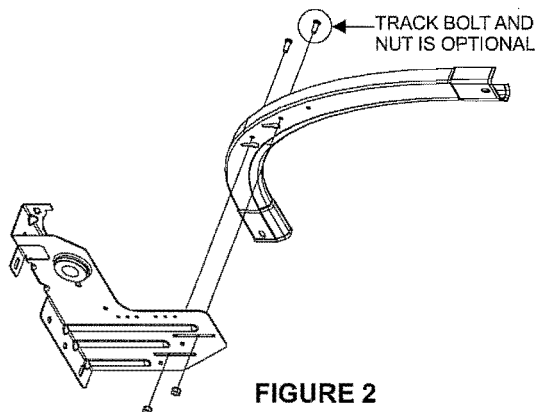

FIGURE 2
- Assemble the flag Bracket to the transition curve by engaging the rivets on the flag brackets into the keyhole slots. Secure the flag bracket to the curve loosely using a track bolt and a nut from the inside of the track and through a slot on the flag bracket. (See Figure 2)